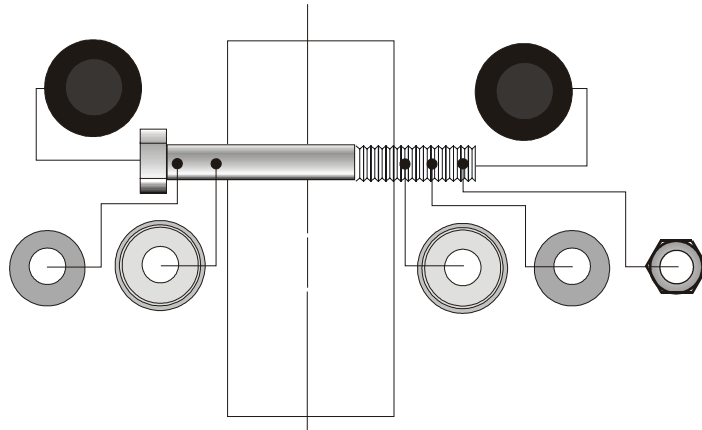

Figure 3. Configuration for 2-3/4" and 3" bolts.
- 2. Bolt on the teardrop pulleys** above the bench and the tricep pulldown (see Figure 3) on both cubes using six 3/8" x 2-3/4" hex head bolts. Include the 3/8" flat washer, end cap washers, end caps and 3/8" Nyloc (locknut). Use the bolt configuration shown in the figure. You may wish to use a pinch bar to align the bolt holes.
The part shown in Hardware Figure 3 is the 9/16" cable jam nut that's used to secure the cables to the weight stacks.
Hardware Figure 3. Cable jam nut.